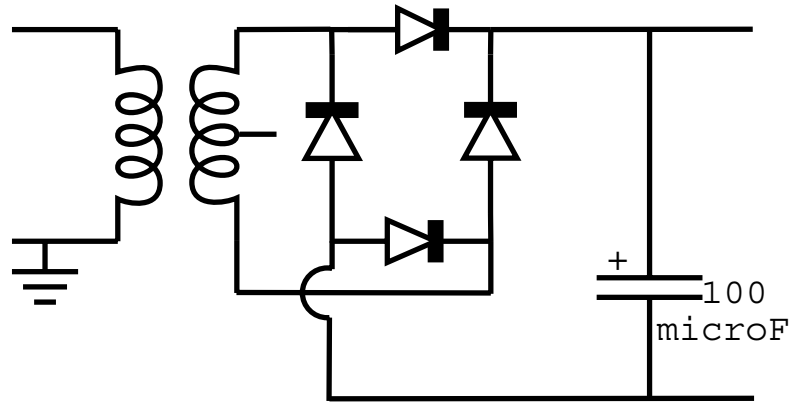

Figure 25: Bridge full wave rectifier circuit
One drawback of the simple full wave rectifier is that the capacitor is charged to only one half of the peak voltage of the transformer output. The bridge full wave rectifier obtains the full peak value of the output by eliminating the centre tap and utilizing four diodes. The bridge rectifier circuit is shown in Figure 25. When the transformer output is positive, two of the diodes conduct, charging the capacitor. When the output goes negative, the other two diodes conduct, also charging the capacitor.
1. Set up the bridge full wave rectifier circuit of Fig.25 except use a $10\text{ k}\Omega$ resistor instead of the capacitor. Note that this figure is shown below (not above). Connect the oscilloscope to the output and draw the resulting voltage function in your lab book.